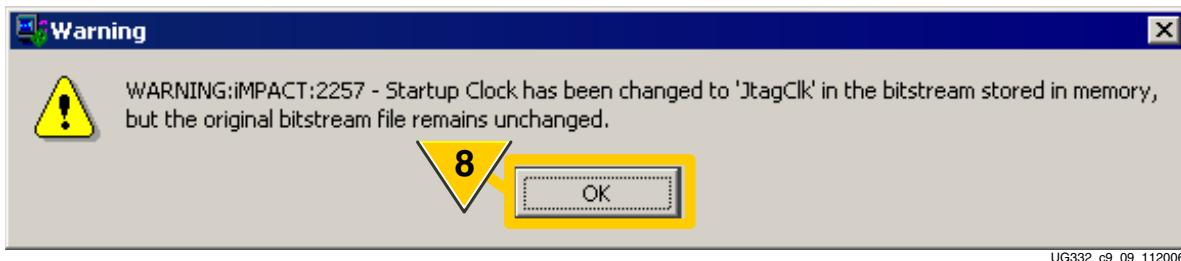

Figure 9-11: iMPACT Automatically Adjusts FPGA Startup Clock for JTAG Configuration
8. As shown in Figure 9-11, the iMPACT software automatically detects that the FPGA bitstream was generated for a non-JTAG configuration method. The iMPACT software automatically adjusts the Startup clock setting for successful JTAG configuration (StartupClkJtagClk). The original bitstream file is unaffected.